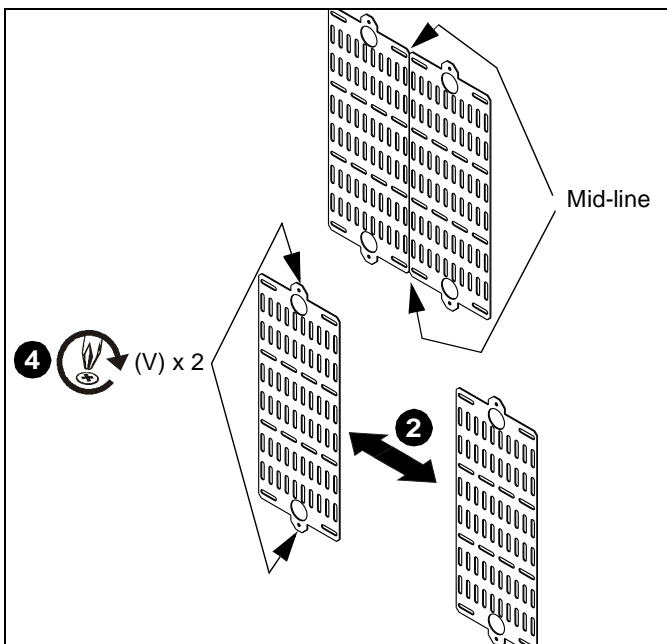

Figure 11
2. If required, break the backplanes along the scored mid-line. (See Figure 11)
4. **PACPL1 ONLY:** Loosely install two 10-24 x 3/8" Phillips external tooth screws (V) into each backplane half. (See Figure 11)
6. Fasten in place using Phillips screws loosened in Step 1; OR Phillips screws (V) installed in Step 4. (See Figure 11)